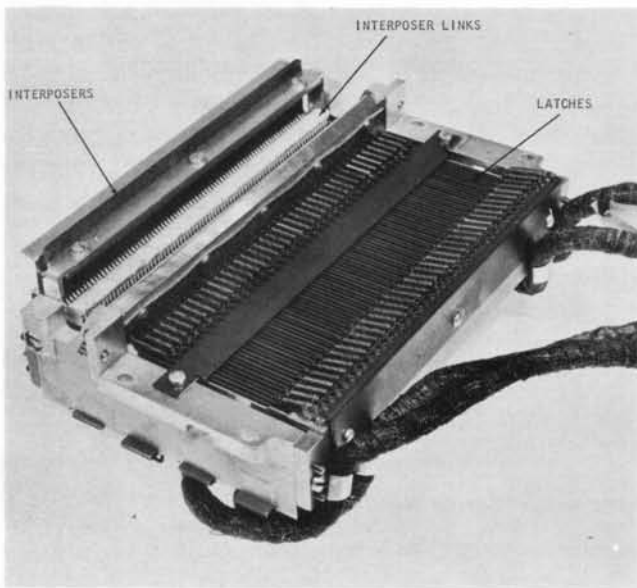

Figure 46. Punch Magnet Unit
2. The magnet unit (Figure 46).
### Interposer and Interposer Link Removal (Figure 46)